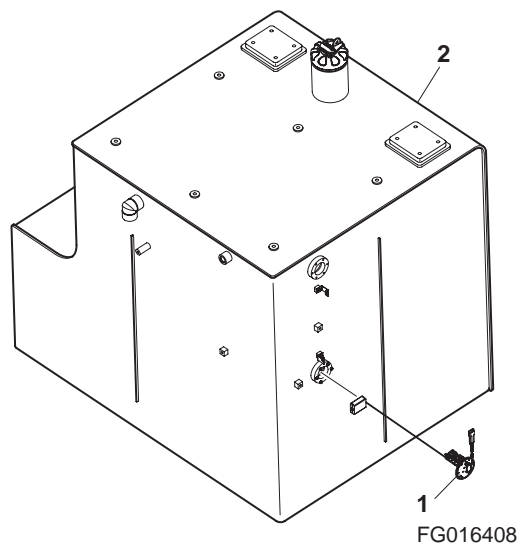

Figure 11
19. Tag and disconnect wires leading to fuel sender (1, Figure 11) on side of fuel tank (2).